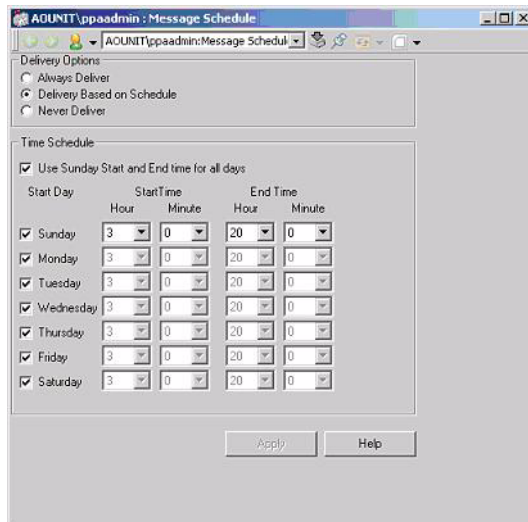

Figure 107. Message Schedule (Delivery Based on Schedule, Use Sunday Start and End time for all days)
- a. Select the **Use Sunday Start and End time for all days** check box. If the time range is the same for every day of the week for which the schedule is active, use the down arrows in the Start Time Hour, Start Time Minute, End Time Hour, and End Time Minute fields **in the Sunday row only** to define the time range. Click **Apply** and the time range appears for every day of the week. The schedule is still only active for the days of the week selected. Figure 107 shows an example.